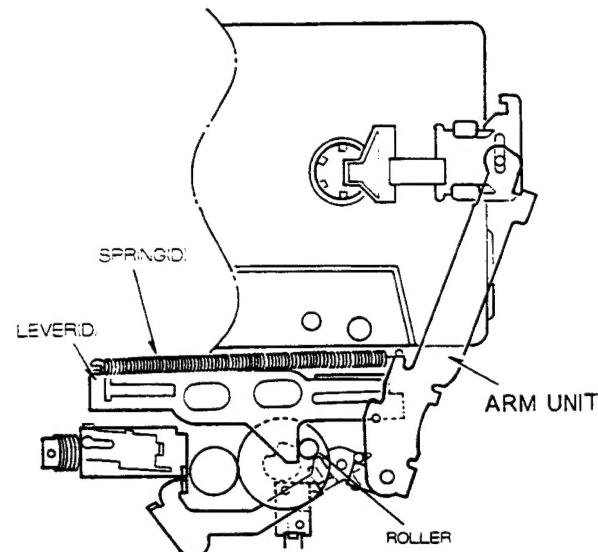

Fig. 29
(2) Upon completion of push-up of a tape cassette, the gear (B) pushes the lever (D) by roller to move it to the left. The lever (D) is connected with an arm unit via spring (D) and pushed out the tape cassette. (Figs. 29 and 30)